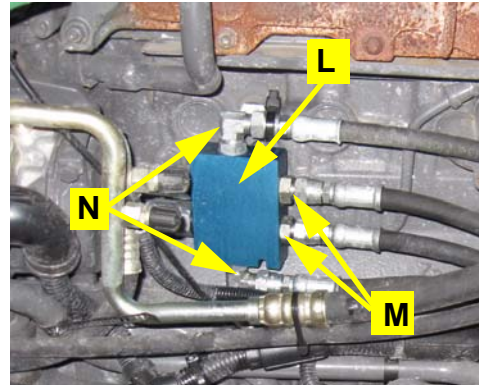

Figure 4b: Steering hose routing
- b. Attach hose **U** to the steering fittings on the left side of the machine and to fittings **N** on the counter balance valve (Figures 4b and 4c).
- c. Attach hose **T** to fittings **M** on the counter balance valve and to steering run-tees **G** under the machine frame (Figures 4b, 4c, and 4d).